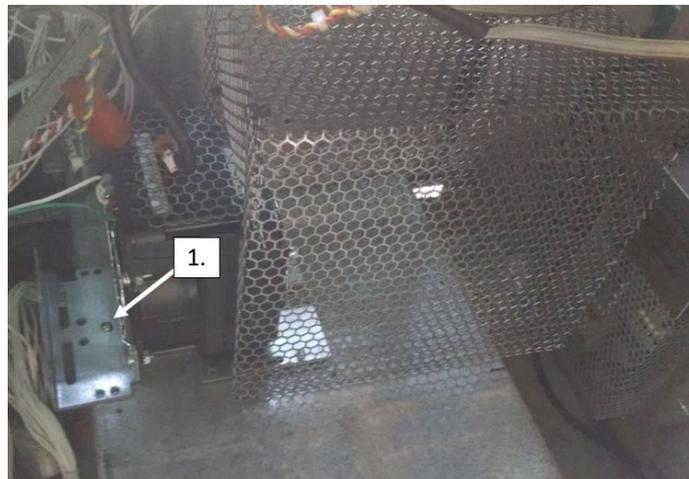

Figure 181
- 7) Mount the heater assembly at location [1] below using one of the provided 6-32 screws (006-8611215) and 6-32 nuts (006-8611426). See Figure 181 and Figure 182 below.